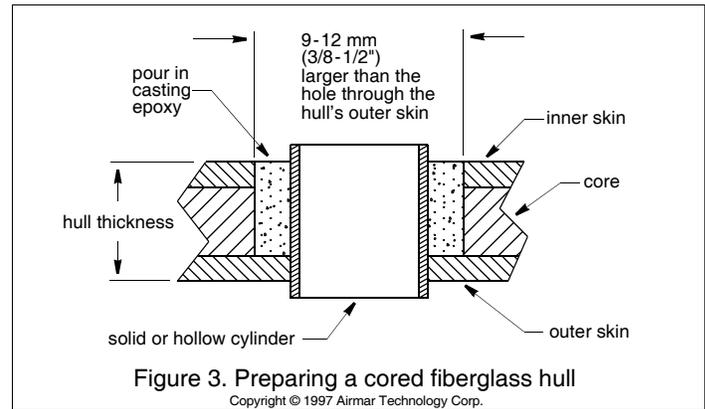

Figure 3. Preparing a cored fiberglass hull
2. Using the appropriate hole saw, cut the hole from outside the hull through the *outer* skin only (see Figure 3).